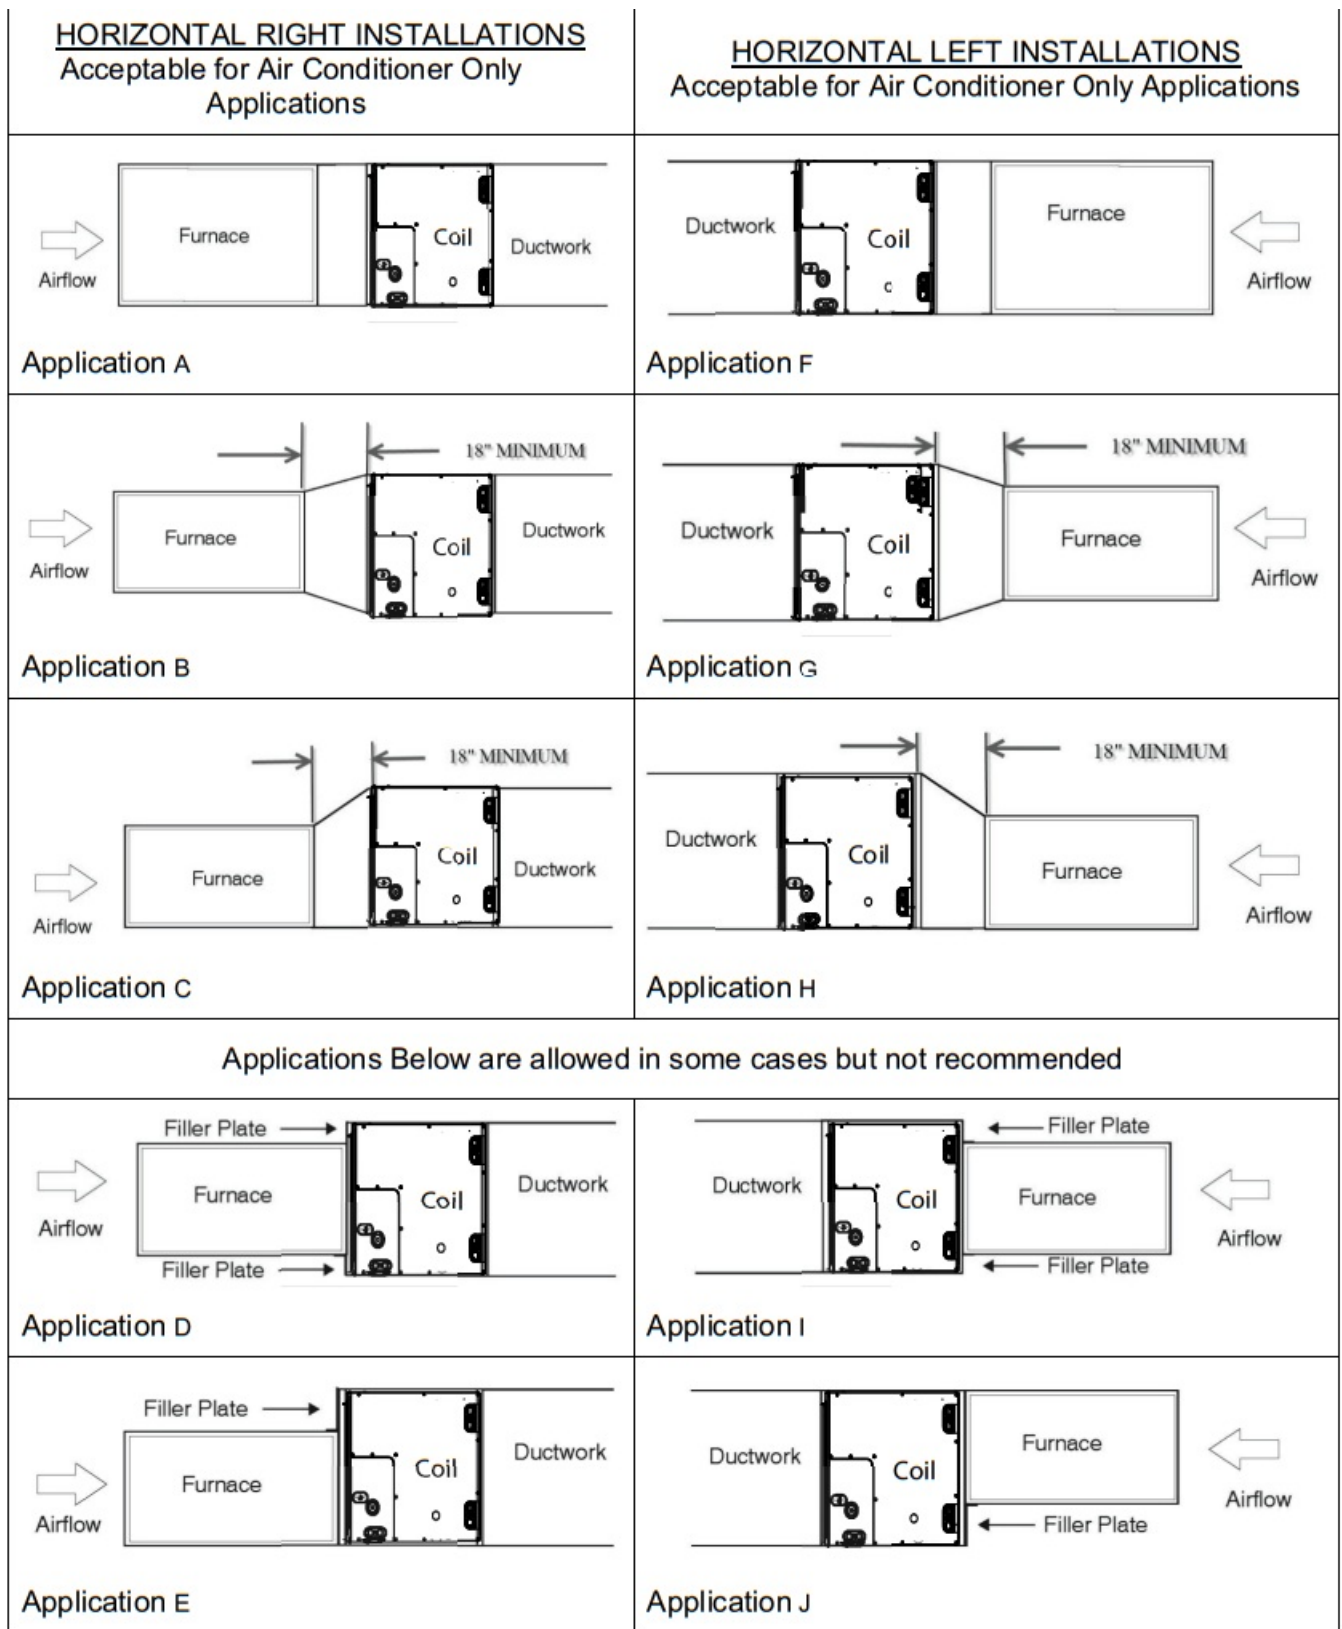

Fig. 8 – Horizontal Installation Applications
The unit can be installed on a work platform, secured to roof truss in attic, suspended from hangers on floor joists in crawl space, or installed on blocks. It is designed to allow airflow in either direction, to mate with horizontal-left or horizontal-right furnace installations. Ensure coil cabinet is level side to side and front to back. It is allowable to add up to 1/2-in. additional slope over length and depth of coil cabinet in the direction of drain pan connection (Fig. 8).
6. If coil is wider than furnace, use 4-in minimum transition and self tapping screws to attach furnace (Fig. 8).
5. If coil is wider than furnace, use 4-in. minimum transition and self tapping screws to attach furnace (Fig. 8).